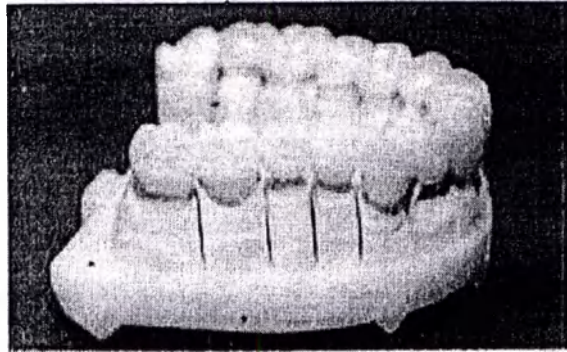

Fig. 15
- 10) On completion of the sintering, remove the framework from the furnace, compare it with the reference model to check its correspondence to the reference model, and work it with the diamond or tungsten carbide cutter, when needed (Fig. 15)